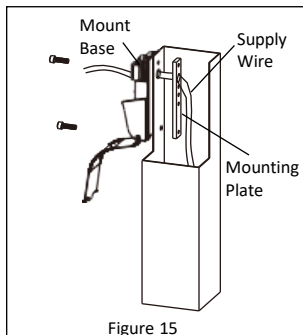

Figure 15
1. Install the mount base to the pole using the mounting plate. Then route the supply wire through the mounting plate and the mount base. **See Figure 15.**